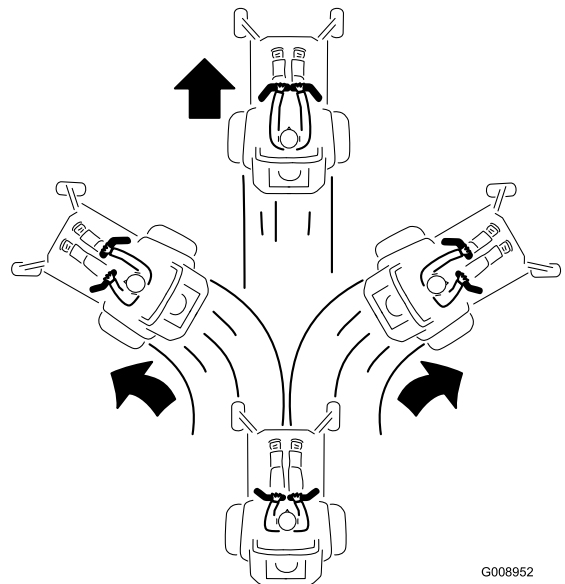

Figure 21
2. To go forward, slowly push the motion-control levers forward (Figure 21).